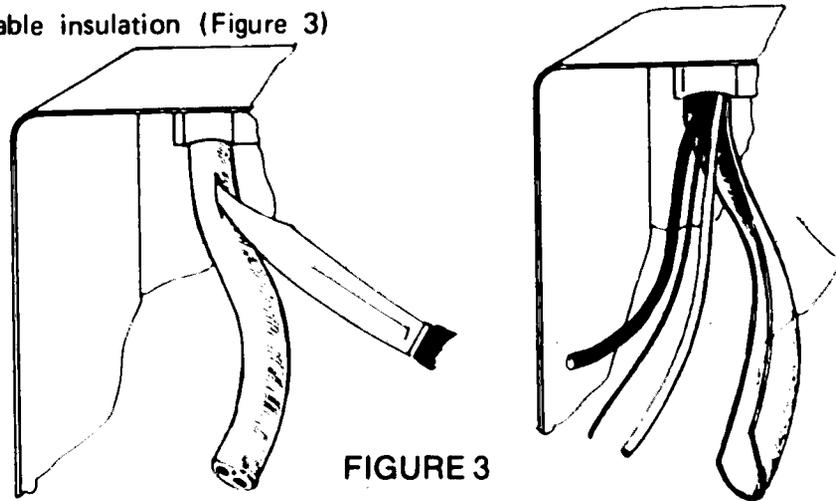

FIGURE 3
J. Strip cable insulation (Figure 3)